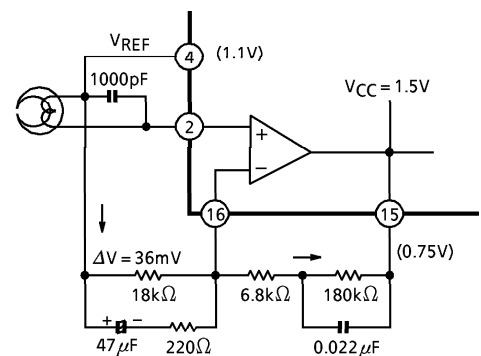

Fig.4 NFB terminal
The resistance of 18kΩ is advisable to be connected between NFB terminal (Pin⑯ and ⑩) and V_{REF} for using this IC. That is because NFB terminal is designed to have the off-set voltage ($\Delta V = 36\text{mV}$) against each terminal (Pin ②, ③, ⑤ and ⑥). Therefore, the DC potential of the output terminals (Pin⑮ and ⑪) can be set at about $V_{CC}/2$ with the current produced by this off-set potential. (Fig.4)